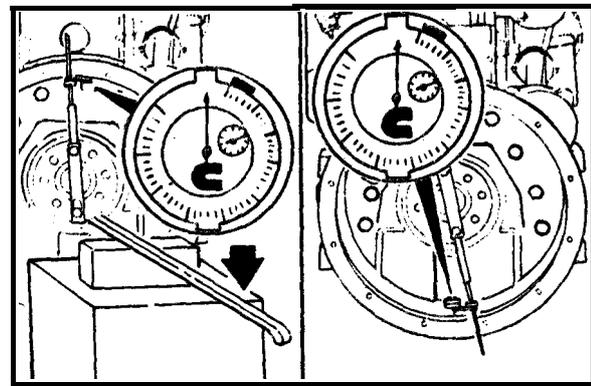

Figure 6-6
8. Determine adjustment for main bearing clearance by raising rear of crankshaft to its upper hit. Use a floor-mounted support with padded pry bar to raise crankshaft and record reading (Figure 6-6).